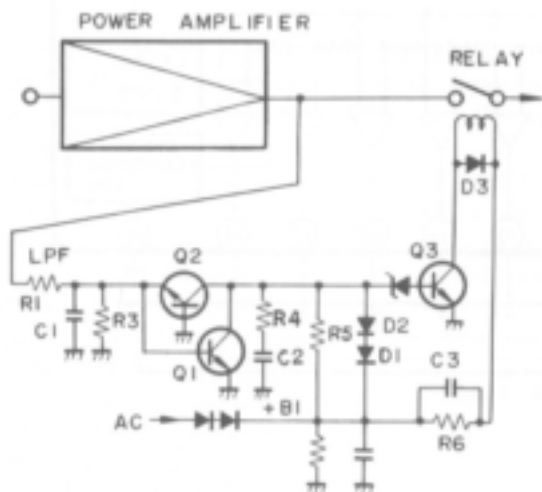

Fig. 5-13 Protection Circuit
With reference to Fig. 5-13 when the power supply is turned on, if there is no input (DC) on  $Q_1$  and  $Q_2$ , they will be off, and the timing capacitor  $C_2$  charges up through  $R_3$  and  $R_4$ , and thus on. When  $Q_3$  conducts, the relay operates, and the output muting on the power amplifier will be removed.